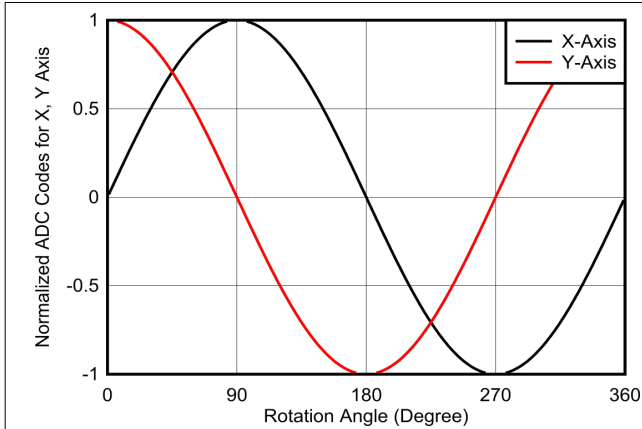
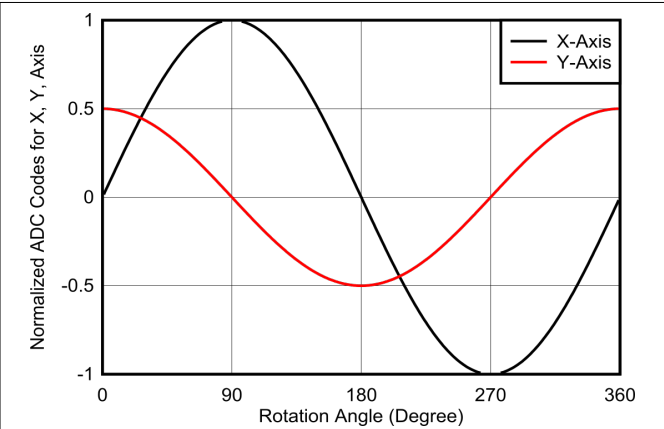

Figure 8-20. X and Y Sensor Data for Full 360 Degree Rotation for On-Axis Measurement
Figure 8-21. X and Y Sensor Data for Full 360 Degree Rotation for Off-Axis Measurement
- A normalized plot for the full 360 degree rotations are represented in Figure 8-20 or Figure 8-21.